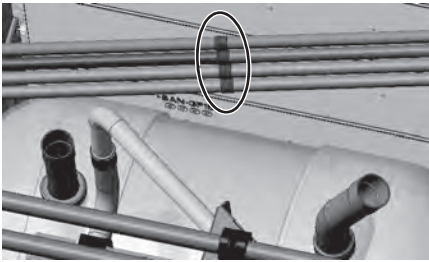

Figure 12
- (7) Remove the braze at the four areas on the four pipes on the back of the accumulator. (See Figure 12.)